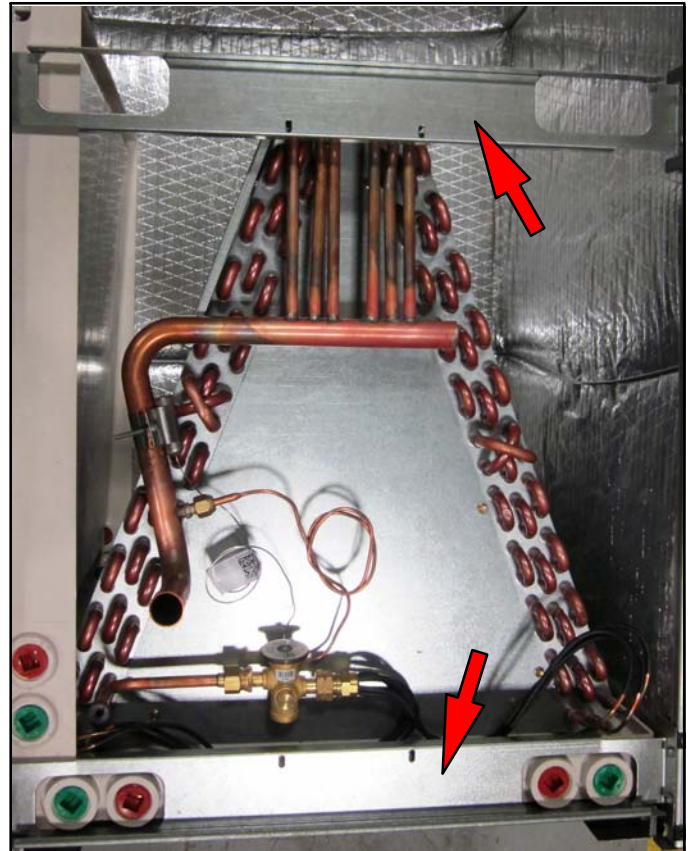

Figure 18. Remove Main Drain Pan Mounting Brackets
2. Remove brackets securing pan to unit. See figure 18.